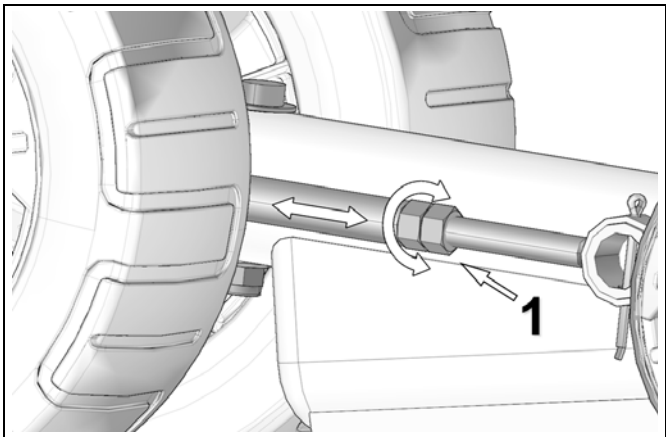

Figure 22
Loosen jam nut (1) and turn adjusting nut to set track tension. See Figure 22.